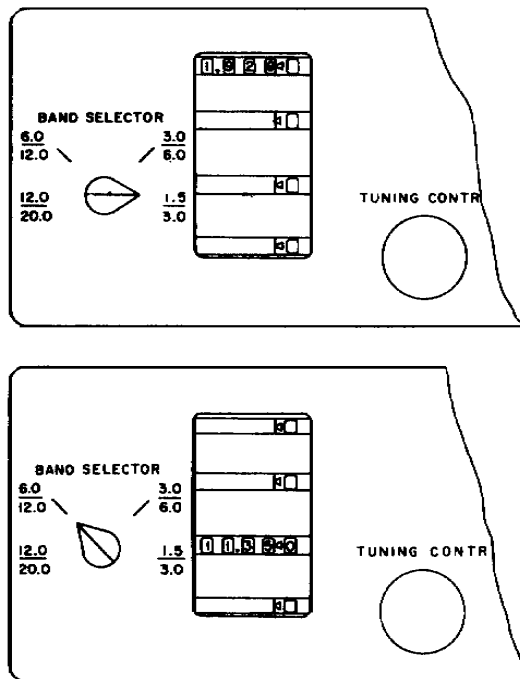

Figure 18. TUNING CONTROL dial, 1.5-3.0 mc 6.0-12.0 mc band position.
- (1) Set the TUNING CONTROL to the desired frequency. Figure 18 shows two positions of the TUNING CONTROL dial. The 1.5-3.0 mc. position uses four digits and reads 1.920 mc. The 6.0-12.0 mc. position uses five digits and reads 11.350 mc. The 3.06.0 mc. and 12.0-20.0 mc. positions also use four and five digits respectively. When the BAND SELECTOR switch is set in the two lower bands, the fourth digit reads either 0 or 5; when the switch is set in the two upper bands, the fourth digit travels through 0 to 9 and the fifth digit remains at 0. When frequencies are selected that do not fall on these exact numbers such as 1.917 or 11.357 mc. interpolation must be used. The transmitter, therefore, must be calibrated as shown in (10) below.
- (2) Set POWER AMPLIFIER TUNING and POWER AMPLIFIER LOADING controls to the numbers that corresponds to the desired frequency (para. 15a).
- (3) Turn the BAND SELECTOR switch to the desired band.
- (4) Turn the P A BAND SWITCH to the desired band.
- (5) Turn the desired BAND SWITCH to Cw
- (6) Throw the FILAMENT POWER circuit breaker to ON.
- (7) Adjust the FILAMENT VOLTAGE control for a reading of 5 to 5.2 volts on the FIL VOLTAGE meter.
- (8) Turn the EXCITATION METER SWITCH to P A GRID X2.